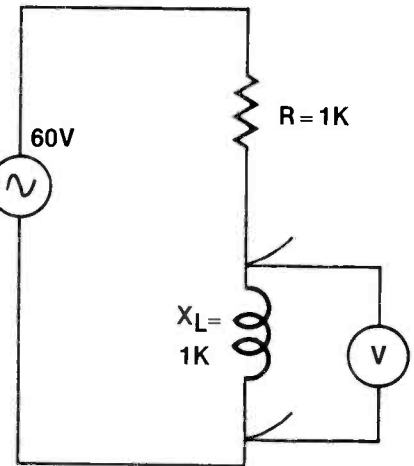

Figure 4
- Is this statement correct? *The voltmeter in the circuit of Figure 4 should read 30V.*
- If the generator voltage in the circuit of Figure 4 is held constant, but the frequency is increased, then the voltmeter reading will